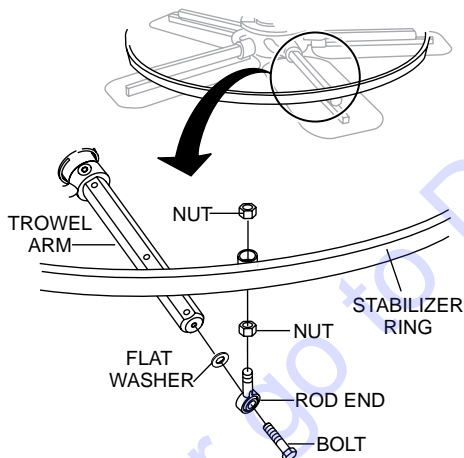

Figure 35. Stabilizer Ring (Stabilizer Ring)
1. Remove the hardware securing the stabilizer ring to the trowel arm. (Figure 35)